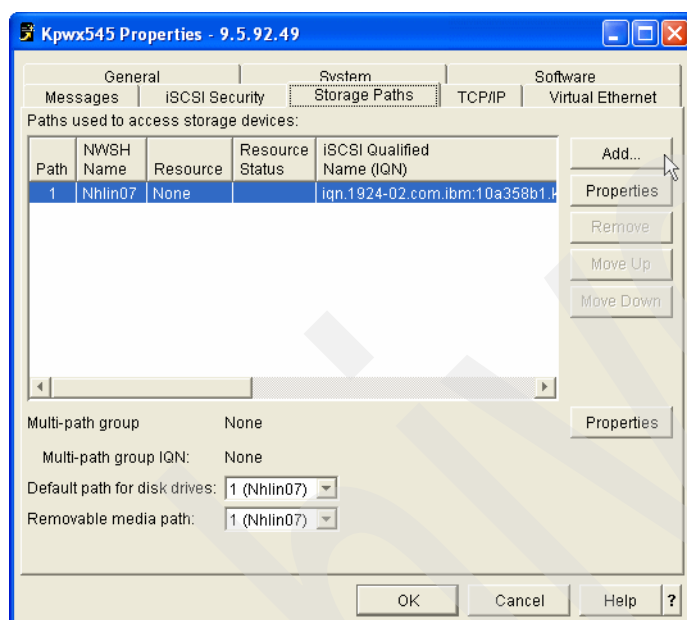

Figure 9-54 Creating a storage path for a hosted server - 1
4. Select the **Storage paths** tab as shown in Figure 9-54.